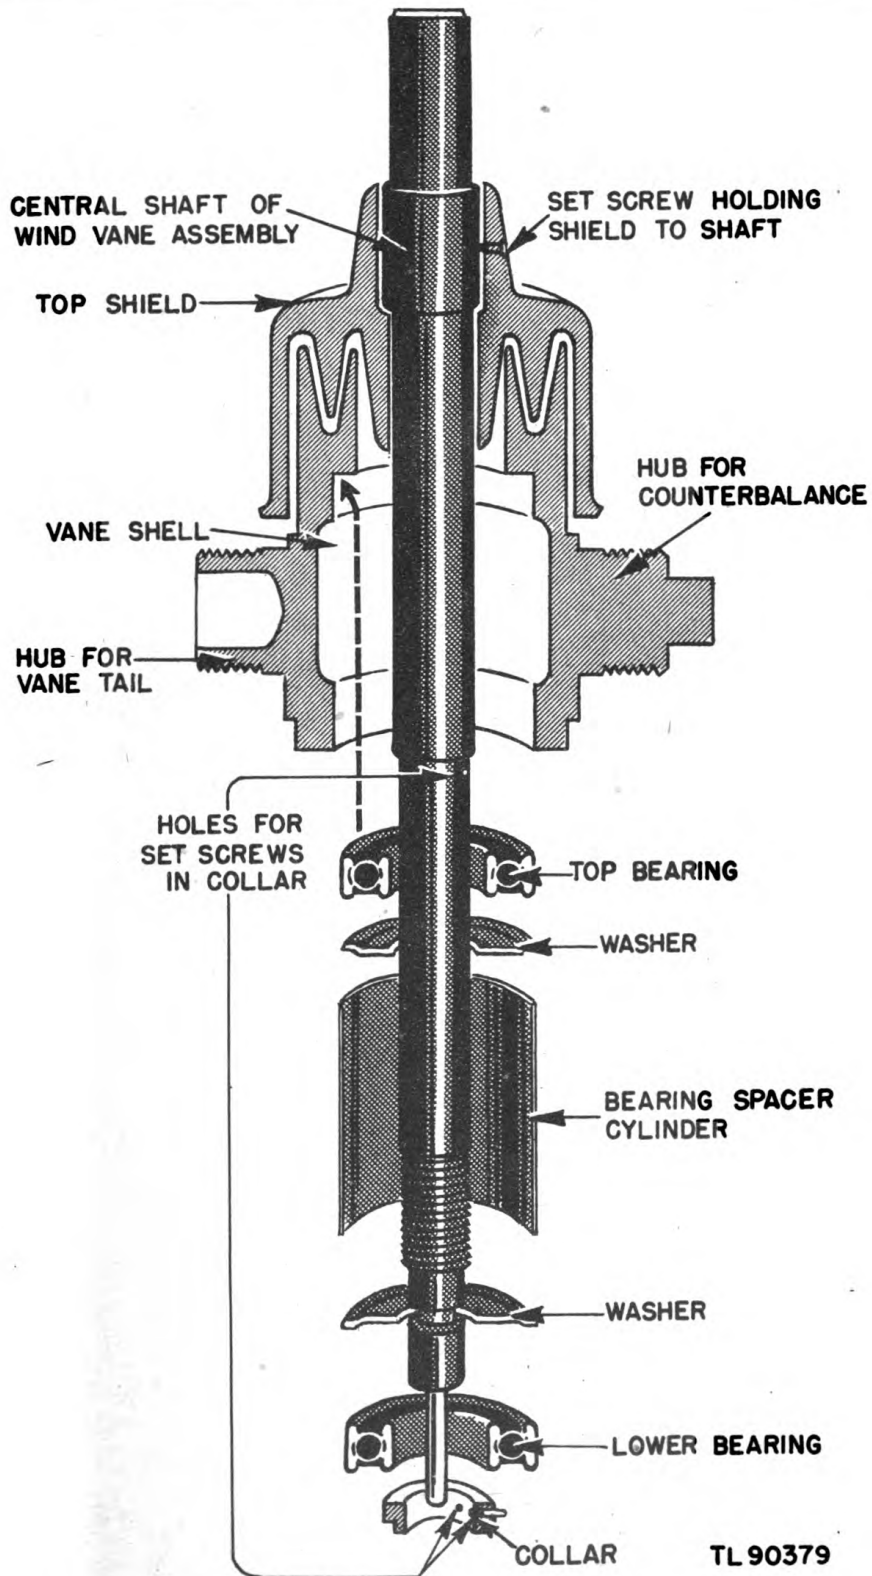

Figure 13. Vane shell bearing assembly, extended cross-section view.
(1) Separate the vane shell from the base section (par. 28c (5)), and lay the base aside.
(2) Remove the shields and the contact assembly from the vane shell (par. 28e (1) and (2)).
*c.* Disassemble the vane shell (fig. 13).
(1) Loosen the two set screws in the collar, and slide the collar off the shaft.
(2) Pull the shaft and attached top shield up and remove it from the vane shell.
(3) Remove the lower bearing, the lower washer, the spacer cylinder, the upper washer, and then the upper bearing, through the bottom opening of the vane shell.
*g.* Replace the contact assembly and shields (par. 28e (3) and (4)), and screw the vane shell section into the base (par. 28f (1) and (2)).